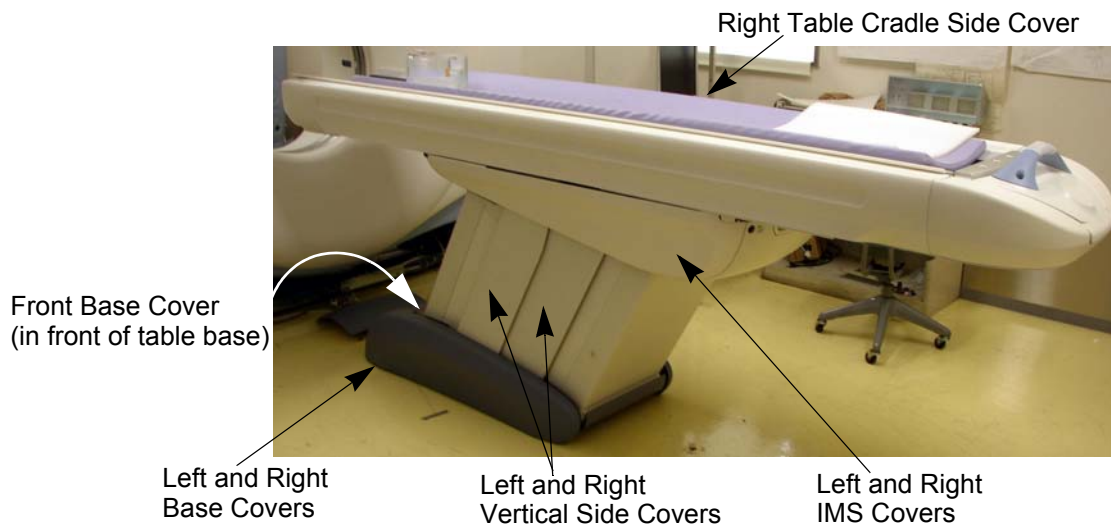

Figure 1-31 Table Covers
- 1.) Remove the table right side cover, as shown in Figure 1-31.